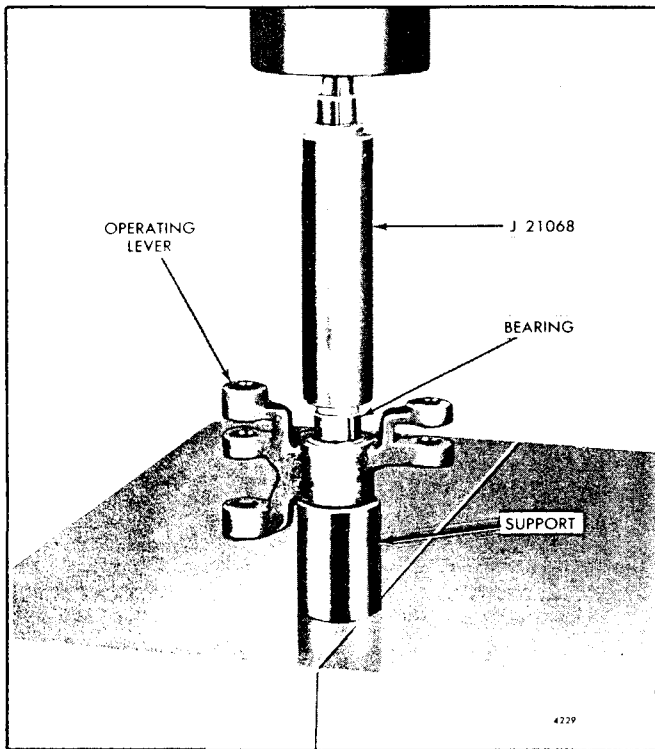

Fig. 11 - Installing Control Link Operating Lever Bearings in Lever
- j. If removed, place the control link operating lever on the bed of an arbor press with a steel support under the bearing bore. Lubricate the bearing with engine oil and start the bearing, numbered end up, straight into the bore of the lever. Insert the pilot end of installer J 21068 (Fig. 11) in the bearing and under the ram of the press. Then